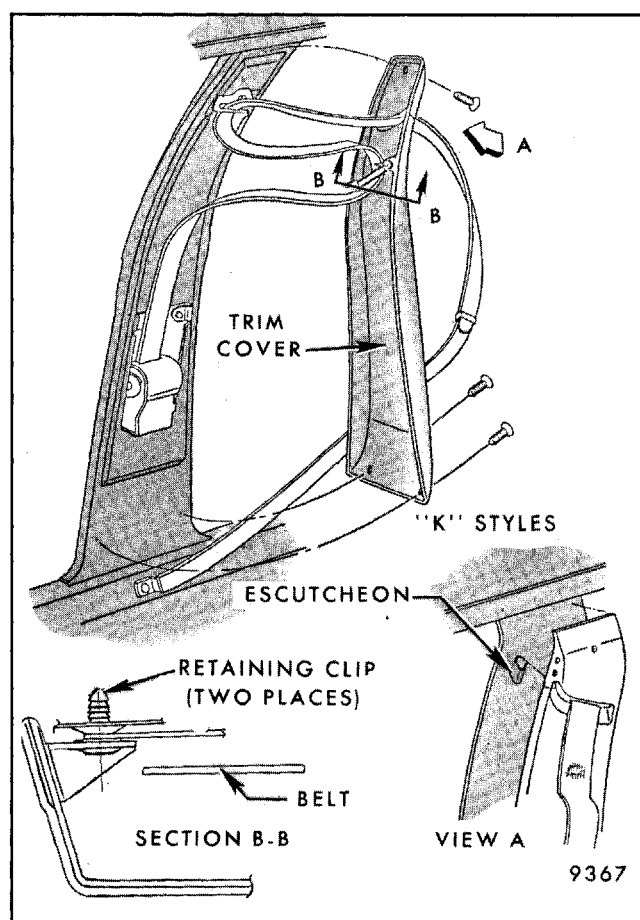

Fig. 5-30 - Center Pillar Trim Cover - Removal and Installation - Cadillac K Style
CENTER PILLAR TRIM COVER - Cadillac K Style (Fig. 5-30)
3. Carefully uncrimp webbing slot escutcheon (view C, Figure 5-30) and remove webbing from slot.